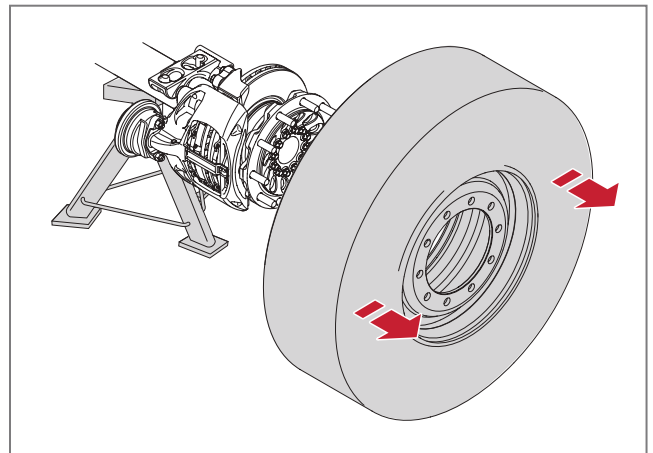

Fig. 7 - Removing the wheel
2. Remove the wheel nuts followed by the wheel, see ► *Fig. 7*.